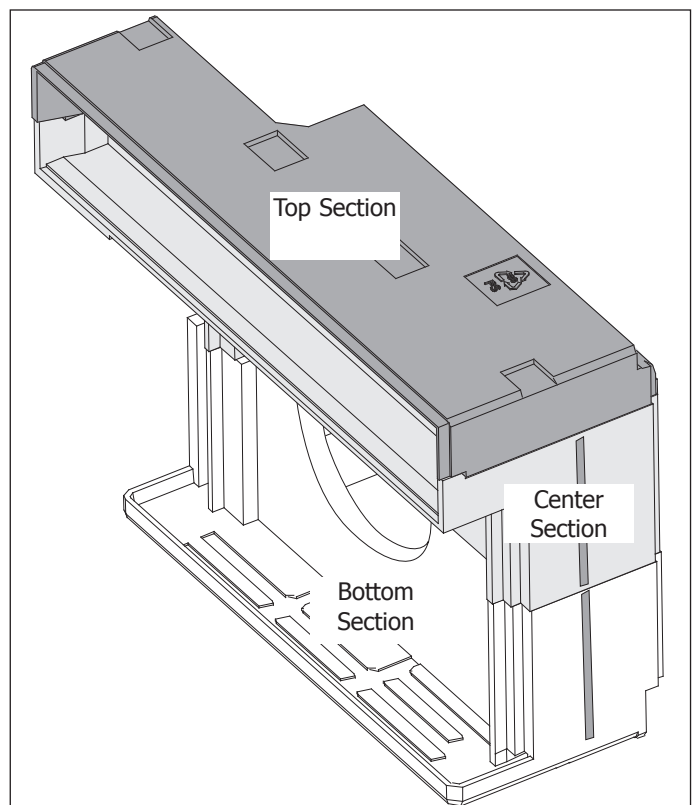

Figure 4-99.
3. Lift the top two sections out as an assembly and remove from the unit. (See Figure 4-99)